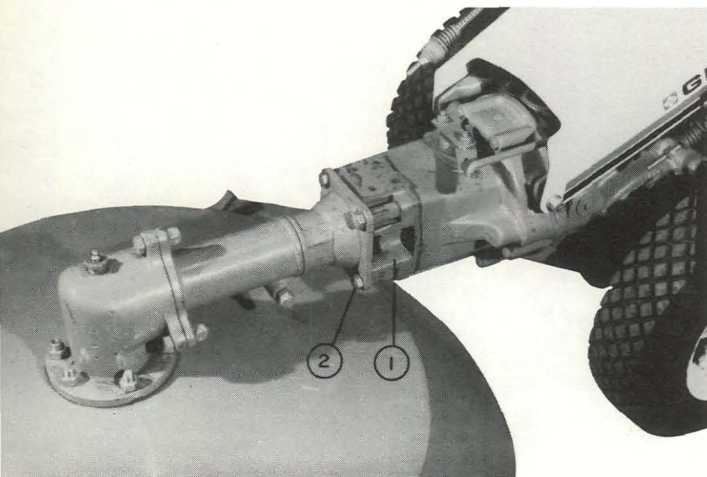

Fig. 2
2. Bolt the mower to the attachment adapter of the tractor with the four attachment bolts. See fig. 2.
1. Remove the four attachment bolts securing the mower to the attachment adapter of the tractor and remove the mower. See fig. 2.